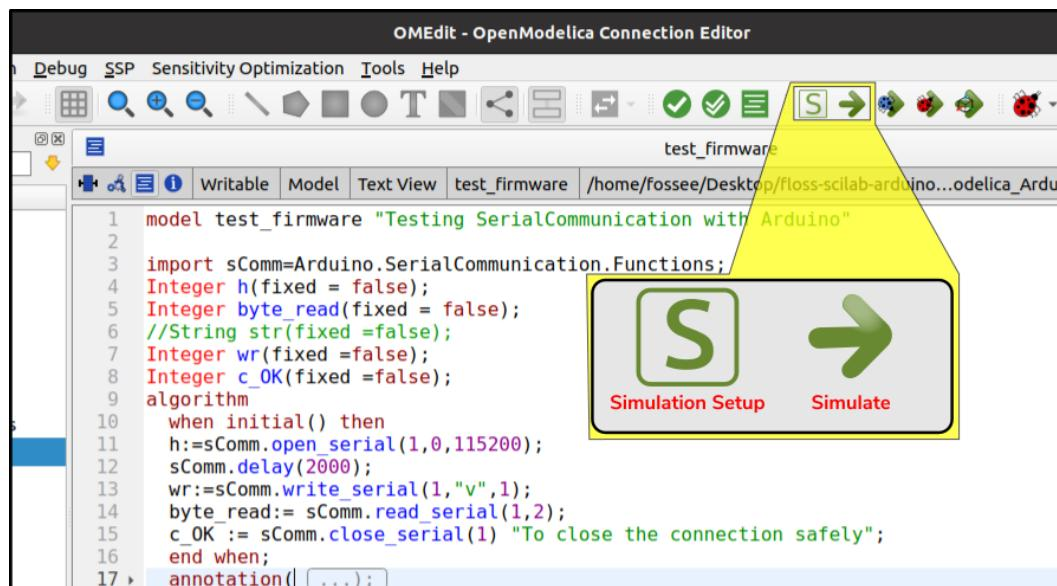
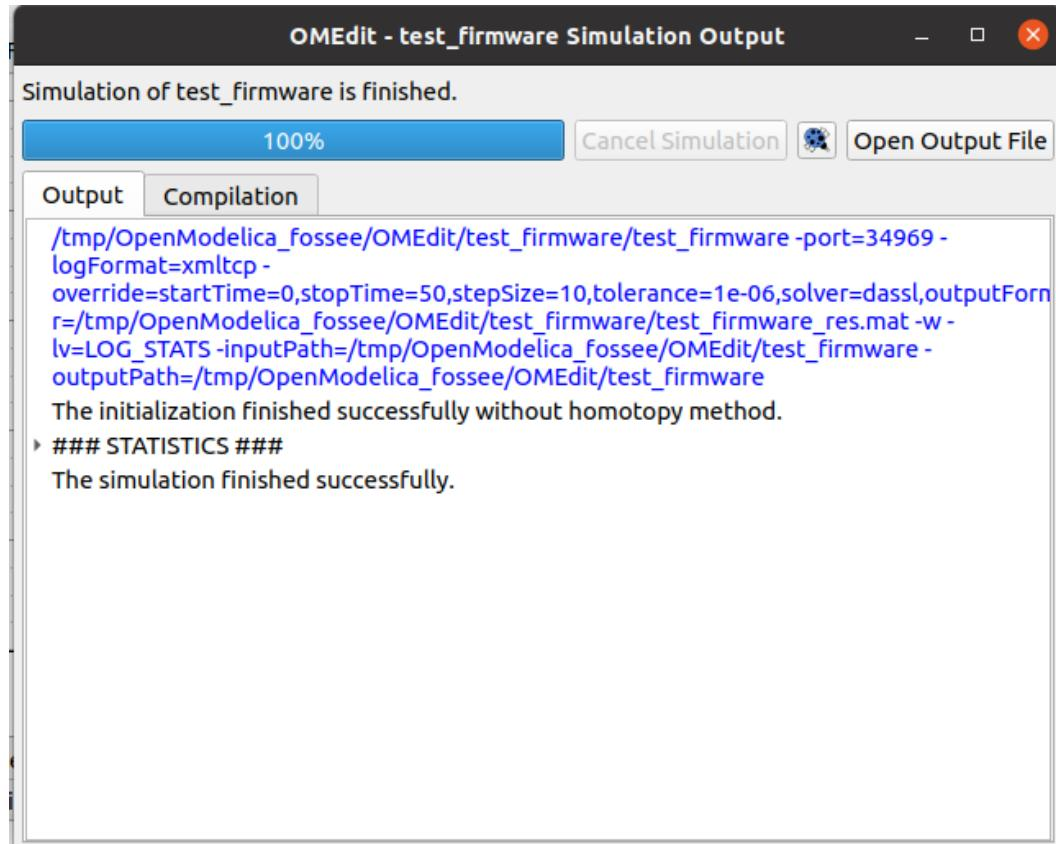

Figure 3.40: Simulating a model in OMEdit
Figure 3.41: Output window of OMEdit
Now, we will see how to simulate this model. For this, we need to ensure that OMEdit is in Modeling Perspective. Next, we will click on the green right-sided arrow, named as Simulate, as shown in Fig. 3.40. When we click on Simulate, OMEdit will first compile the model and then, it will simulate the model for the time specified in the model itself. As OMEdit provides an elegant user interface for simulating the models, it will open an output window the moment you click on Simulate. Fig. 3.41 shows the output window after the simulation of our model is finished. Also, we can observe that the OMEdit is now in Plotting Perspective.
As shown in Fig. 3.41, OMEdit displays the message that "The Simulation fin-
**OpenModelica Code 3.1** An OpenModelica code/model to check whether the firmware is properly installed or not. Available at Origin/tools/openmodelica/windows/test\\_firmware.mo, see Footnote 2 on page 2. Locate this file inside OpenModelica-Arduino toolbox, as explained in Sec. 3.6.4. Simulate this code/model by following the steps given in Sec. 3.6.3. If the simulation is successful, you should expect an output window in OMEdit as shown in Fig. 3.41.